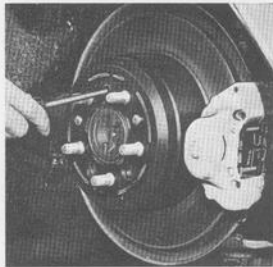

Fig. 5-79. Adjusting parking brake, rear wheel
4. Set the drum so that its hole coincides with the serrations on the adjusting screw and apply the shoes by moving the screwdriver handle upwards, see Fig. 5-79. When the drum cannot be rotated easily, discontinue applying the shoes. Then turn the adjusting screw back 4—5 serrations. Check that the shoes do not "drag" by rotating the drum in its normal direction of rotation. Very little dragging may be permitted. If, however, the dragging is more pronounced, the adjusting screw should be released a further 2—3 serrations. Connect the cable to the lever and remove the holder 2742.
1. Adjust the brake shoes of the rear wheels. Check here that the brake pads do not stick to the brake disc and adjust the drum so that its hole coincides with the serrations of the adjusting screw. Place a screwdriver between the serrations of the adjusting screw and apply the shoes by moving the screwdriver handle upwards, see Fig. 5-79. When the drum can be turned easily, discontinue applying the shoes. Then turn the adjusting screw 4—5 serrations back.